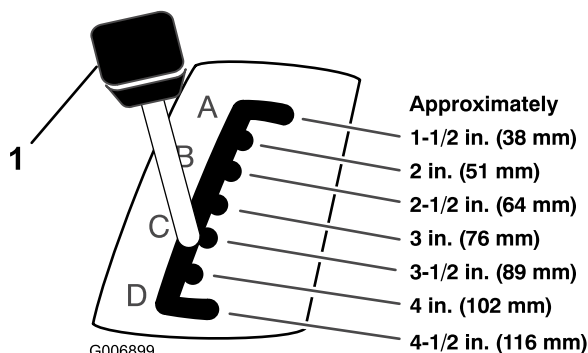

Figure 8
5. Pull on the height-of-cut lever on the tractor and move it to the desired position (Figure 8).